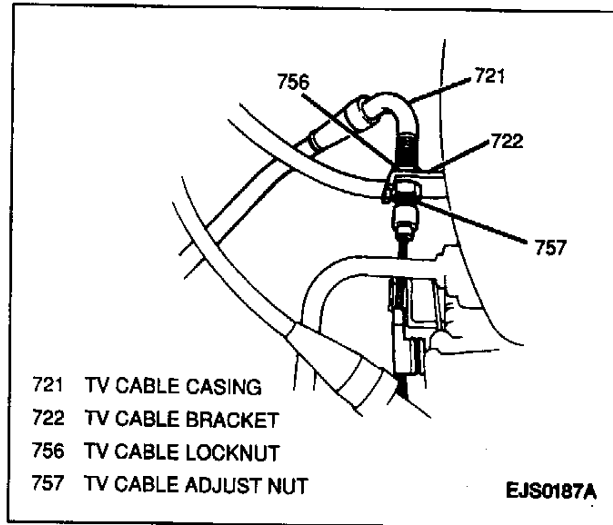

Figure 19—TV Cable at Throttle Body (3L30, 3-Speed)
1. Loosen TV cable locknut and adjust nut (Figure 19).
2. TV cable from throttle body linkage (Figures 19 and 20).
9. TV cable casing into TV cable bracket at throttle body (Figures 19 and 20).
10. TV cable end to throttle body linkage (Figure 19).